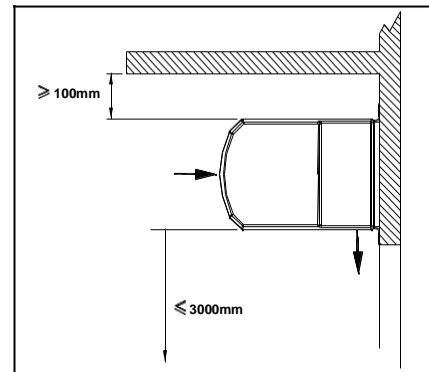

Fig 1
- At least 100mm clearance (air gap) above electric/water heated air curtains, see Fig 1